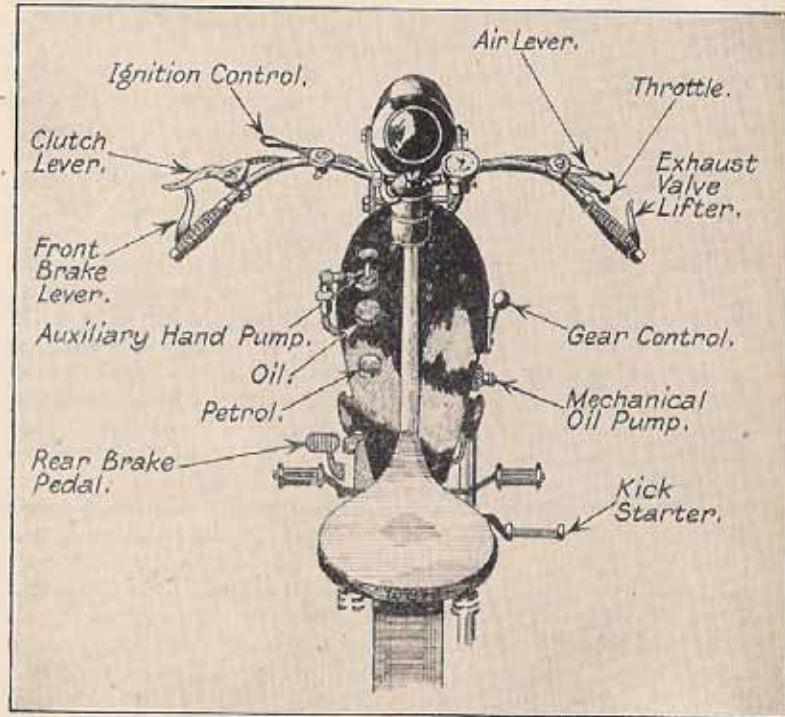

FIG. 21. SHOWING CONTROLS OF THE 3-49 H.P. S.V. MODEL A.J.S.
(2) cycle controls. The former are the most sensitive and important; they are analogous to delicate nerves which convey impulses from the driver's hands to the interior of the engine. If the reader has ridden a three-speed pedal cycle, he will understand the purposes of the gear-box. It is to be hoped, anyway, that he has ridden a "push-bike"; for he will then have no difficulty in balancing the motor-cycle straight away. Moreover, he will have acquired some road sense which only experience can give. A sketch of the A.J.S. controls is shown in Fig. 21. The engine controls are all mounted on the handlebars and comprise four